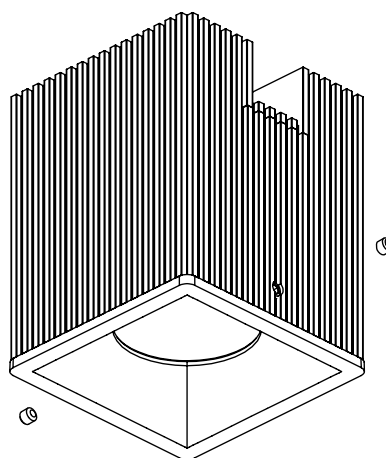

Fig. 16
2. Insert the **Trim** into the **Light Engine** (Fig. 16).